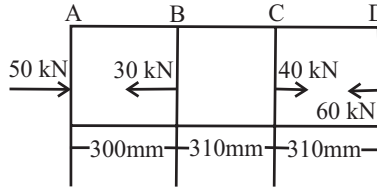

Fig. 5.2
- (d) A steel bar is subjected to loads as shown in Fig. 5.2. Determine the change in length of the bar ABCD of 18 cm diameter $E = 180 \text{ kN/mm}^2$.